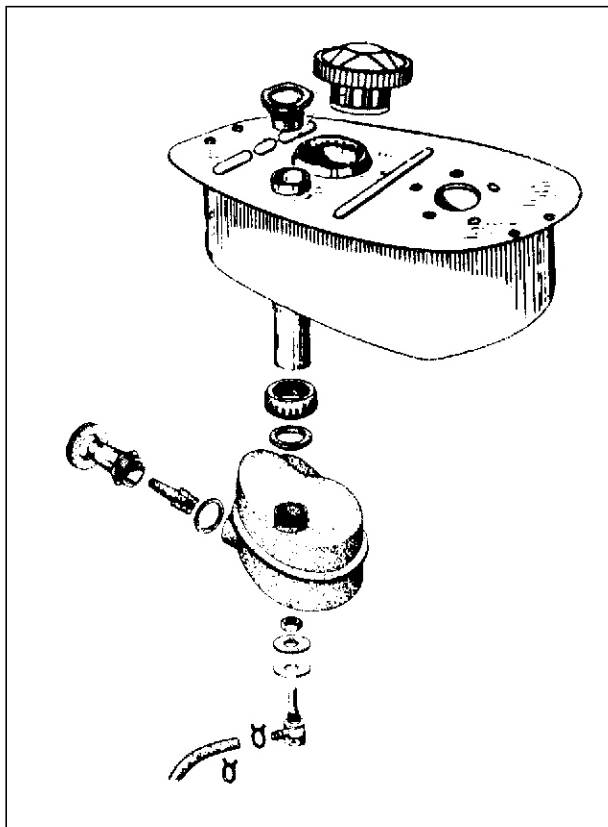

Fig.79
- (c) The oil tank No.2 will come out alongwith petrol tank No.1. It is fitted to the bottom end of tube with ring nut. The oil level gauge is directly fitted with the oil tank. (see fig.79)